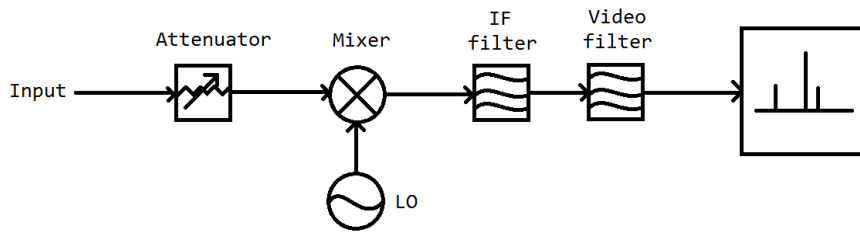

Figure 1. Functional components of a Heterodyne Spectrum analyzer **rauscher-spec**.
A simplified structure of heterodyne type spectrum analyzer is shown in Figure 1. The first component of the Spectrum analyzer is the attenuator. The attenuator allows to study high power signals that otherwise would damage the input amplifiers. After the attenuator is the mixer, whose task is to combine the input signal with local oscillator (LO) frequency and to shift the signal to an intermediate frequency (IF). The